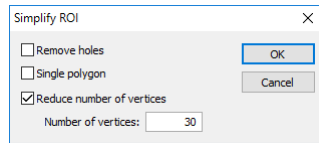

Figure 236 – Simplify ROI dialog
2. Click the **Simplify...** button. The **Simplify ROI** dialog is then displayed (see Figure 236).